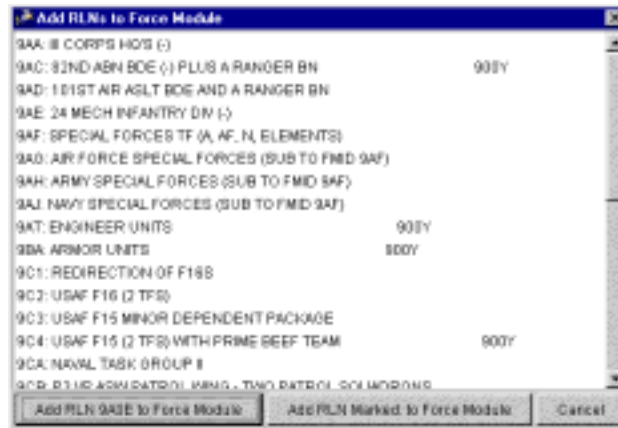

Figure 5.83 Add RLNs to Force Module Window
5. Click the Add RLN to Force Module command. The Add RLNs to Force Module window opens (Figure 5.83).